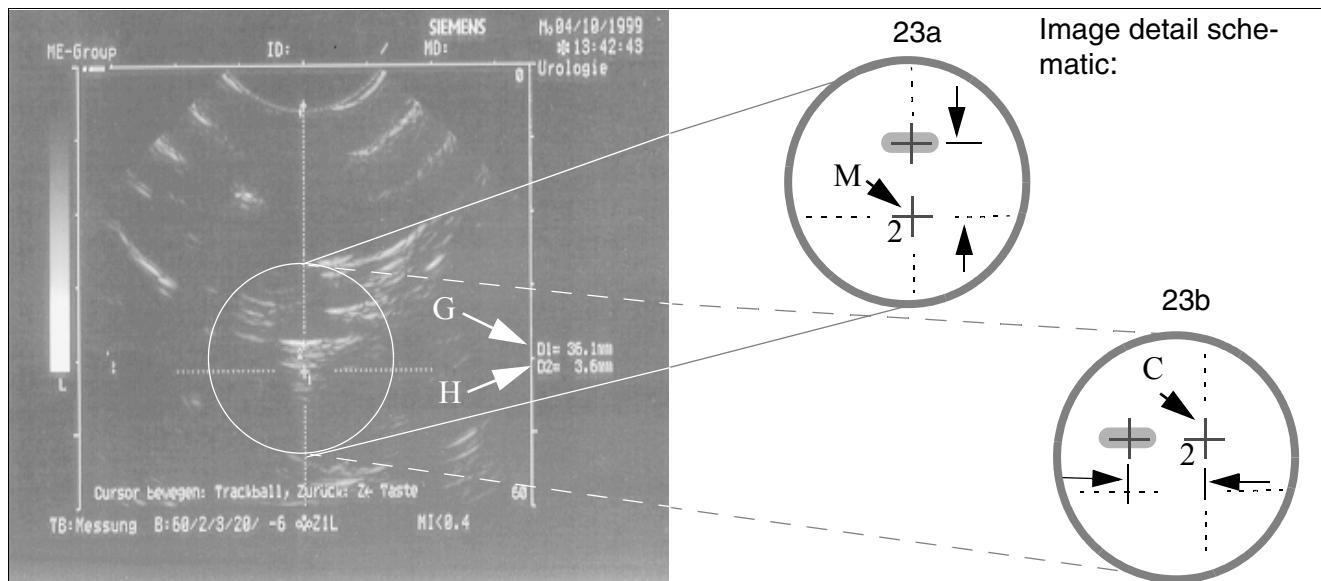

Fig. 23
Checking the distance: Height (23a/Fig. 23)
- The value displayed for "D1" (G/Fig. 23) must be between 33 and 36 mm; if not, move the probe appropriately in the longitudinal axis.
- Move the cross "+2" using the track ball horizontally into the center of the white area (23a/Fig. 23) of the isocenter phantom
- The value displayed for "D2" (H/Fig. 23) must be between 1 and 5 mm. This is only valid for the default values, see instructions, SPL1-130.038.01...
Checking the distance: Side (23b/Fig. 23)
- If the center point of the white area (23b/Fig. 23) is not in the center (permitted difference: ± 0.5 mm from the center):
If the display of the ball (23b/Fig. 23) appears to the left of the isocenter, the correction value must have a negative sign in front (to the right is a positive sign in front).
- Enter half the value of D2 (H/Fig. 23).
Example:(H/Fig. 23): D2 = 1,2 mm \Rightarrow Enter: -06 .
- Check the difference; if white area (23b/Fig. 23) is not in the center of the isocenter, repeat the procedure.